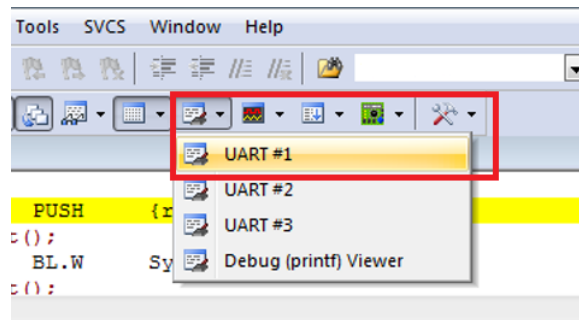

Figure 2.8: Keil IDE: Enable UART Window View
5. Choose UART#1 from the Serial Windows button (see Figure 2.8). You will see the UART#1 window shown up at the bottom right part of the screen (see Figure 2.9).